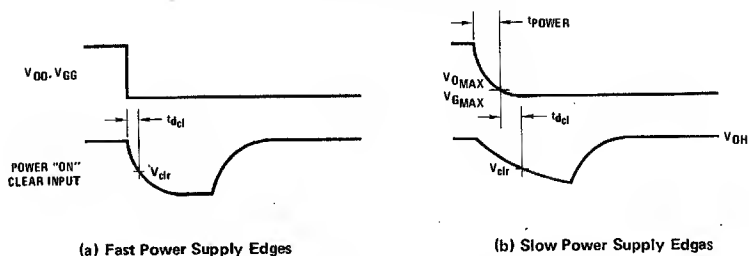

FIGURE 8. Power "ON" Clear Input Timing
Power "ON" Clear Input Levels (Figure 8) See Note 6
**Note 6:** Power On Clear input pin is reset by the MM57100 to the  $V_{OH}$  level near the end of the internal Power On Clear cycle, as shown in Figure 8.
Power "ON" Clear Timing (Figure 8)	$RC > 138 \text{ ms}, R = 180k, 10\%;$ $C = 1 \mu F, 10\%$